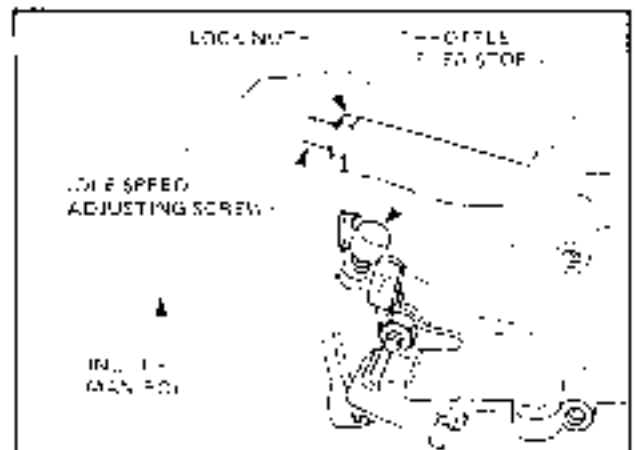

Figure 6C-6
1. Loosen off lock nut (Fig. 6C-6).
2. Install an accurate tachometer. Turn the idle speed adjusting screw to achieve the correct idle speed (Fig. 6C-6).
DO NOT UNDER ANY CIRCUMSTANCES ADJUST THE THROTTLE LEVER STOP. (Refer Fig. 6C-6).